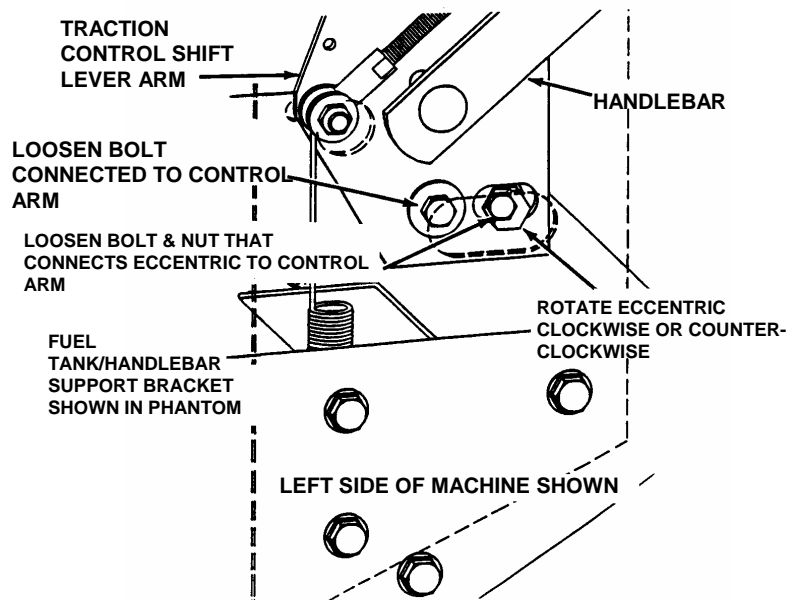

FIGURE 3.11
STEP 10: Wheel rotation will be stopped by adjusting the eccentric on the pump arms on the right and left pumps. Turning the eccentric slightly clockwise or counter-clockwise will synchronize the pump and traction controls for Neutral. See Figure 3.11. To turn the eccentric, first loosen the bolt in the pump control arm and the nut and bolt fastening the eccentric to the pump control arm. With both Traction Levers latched in Neutral, start engine. Turn eccentric slightly clockwise or counter-clockwise until wheels stop rotating. Tighten control arm bolts and eccentric nut and bolts. Check for wheel rotation. Repeat eccentric adjustment if needed.